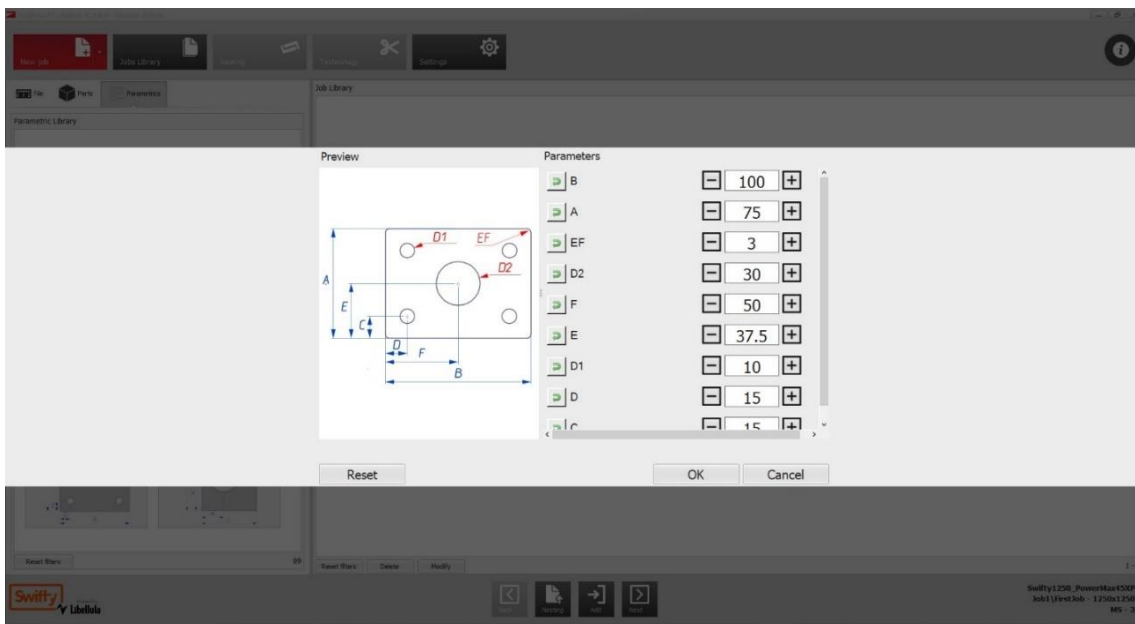

Fig 54 Parametric screen
3. The parameters screen will be displayed (Fig 54).